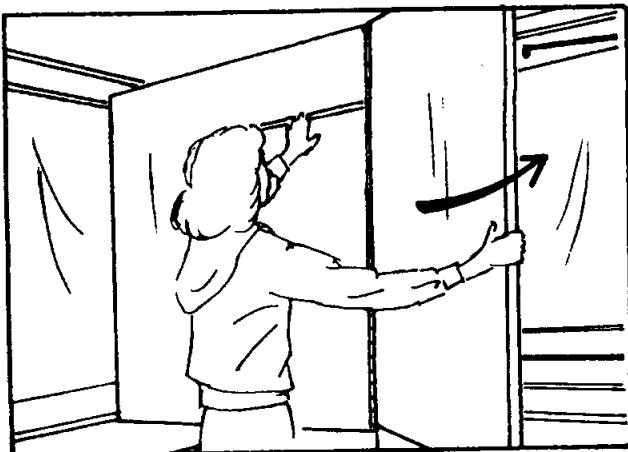

FIGURE 21
27. After wall has slightly passed full vertical height, slowly swing right side out until it is parallel with large wall section. See Figure 21.